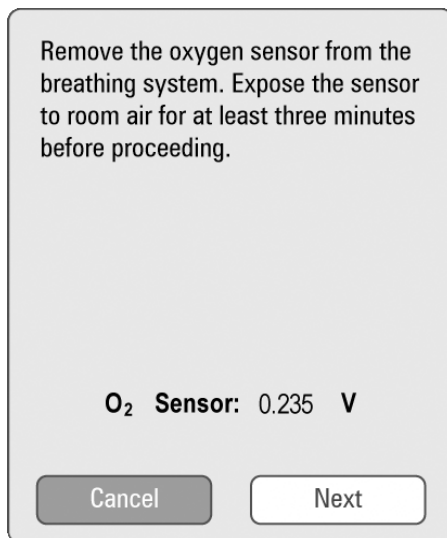
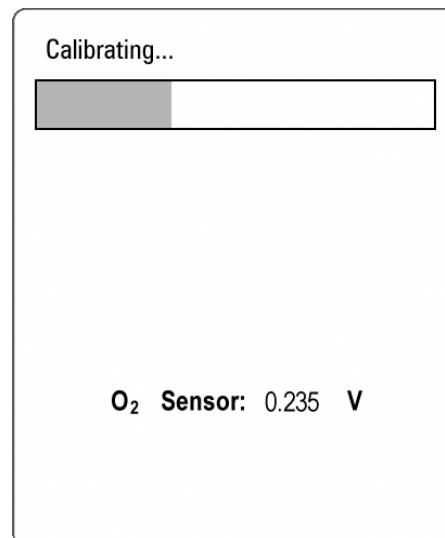

FIGURE 6-23 Oxygen Sensor Calibration Instructions
FIGURE 6-24 Oxygen Sensor Calibration Progress Bar
2. After the **Start Calibration** button has been selected, the screen shown in FIGURE 6-23 will be displayed, instructing the user to remove the oxygen sensor from the Breathing System and expose it to room air for at least 3 minutes before proceeding. After at least 3 minutes have passed, select the **Next** button to initiate the calibration process. The progress bar shown in FIGURE 6-24 will be displayed.